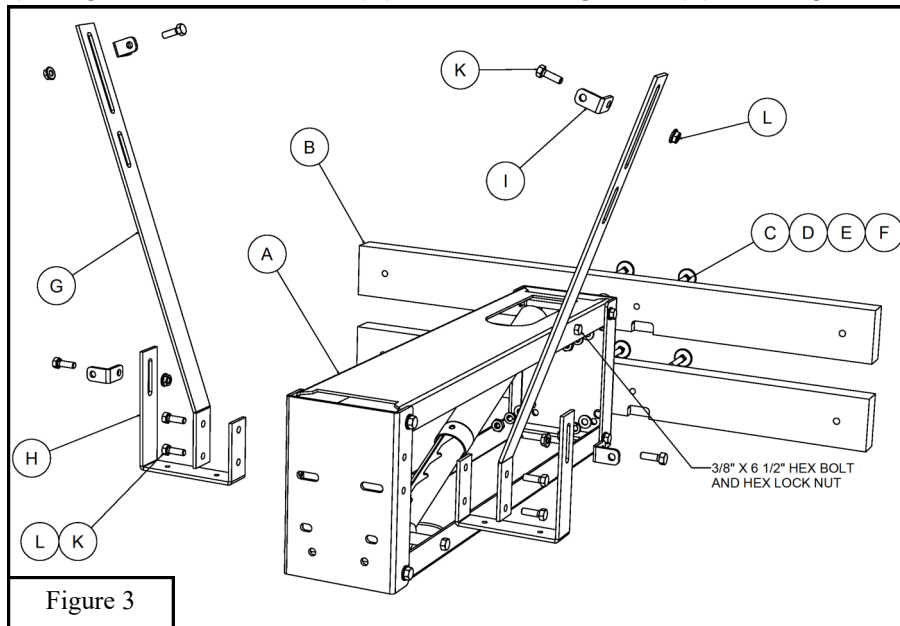

Figure 3
3. Remove the 3/8" Hex lock nut and 3/8" x 6 1/2" Hex bolt from the upper channel of the *Extension Arm Assembly* (A) and attach the upper end of the rim height adjustment mechanism to the *Extension Arm Assembly* (A). Take care to avoid finger entrapment during attachment. See Figure 3.
4. Attach *Extension Arm Assembly* (A) to the four 3/8" x 2 1/2" *Flanged Elevator Bolts* (C) protruding from the *Wall Boards* (B). Use 3/8" *Flat Washers* (D), 3/8" *Lock Washers* (E) and 3/8" *Hex Nuts* (F). Tighten all hardware when *Extension Arm Assembly* (A) is level. See Figure 3.
- 5a. Mount the *Upper Backboard Supports (G)* to the holes on the side of the mounting plate on the *Extension Arm Assembly (A)* using *5/16" x 1" Hex Bolts (K)* and *5/16" Flange Nuts (L)*. Discard *Lower Backboard Supports (H)* for this system. See Figure 3.
- 6a. Loosely attach the *Backboard Mounting Angles (I)* to the end of the *Upper Backboard Supports (G)* using *5/16" x 1" Hex Bolts (K)* *5/16" Flange Nuts (L)*. Discard extra *Backboard Mounting Angles (I)* and *5/16"* hardware for this system. See Figure 3.
- 5b. Mount the *Upper Backboard Supports (G)* and the *Lower Backboard Supports (H)* to the holes on the sides of the mounting plate on the *Extension Arm Assembly (A)* using *5/16" x 1" Hex Bolts (K)* and *5/16" Flange Nuts (L)*. See Figure 3.
- 6b. Loosely attach the *Backboard Mounting Angles (I)* to the end of each of the *Upper and Lower Backboard Supports (G)* and *(H)* using *5/16" x 1" Hex Bolts (K)* and *5/16" Flange Nuts (L)*. See Figure 3.